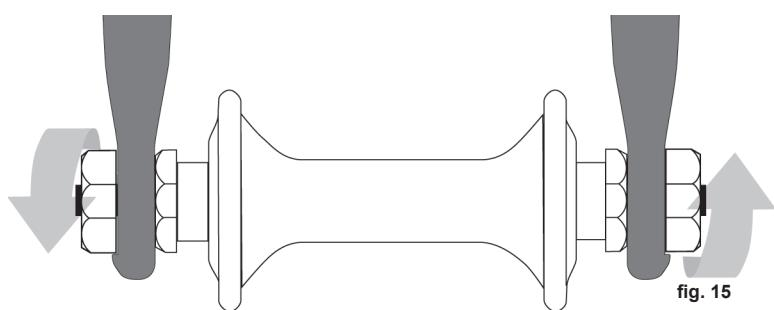

fig. 15
3. Hex nuts or hex key bolts which are threaded on to or into the hub axle (bolt-on wheel, **fig. 15**).